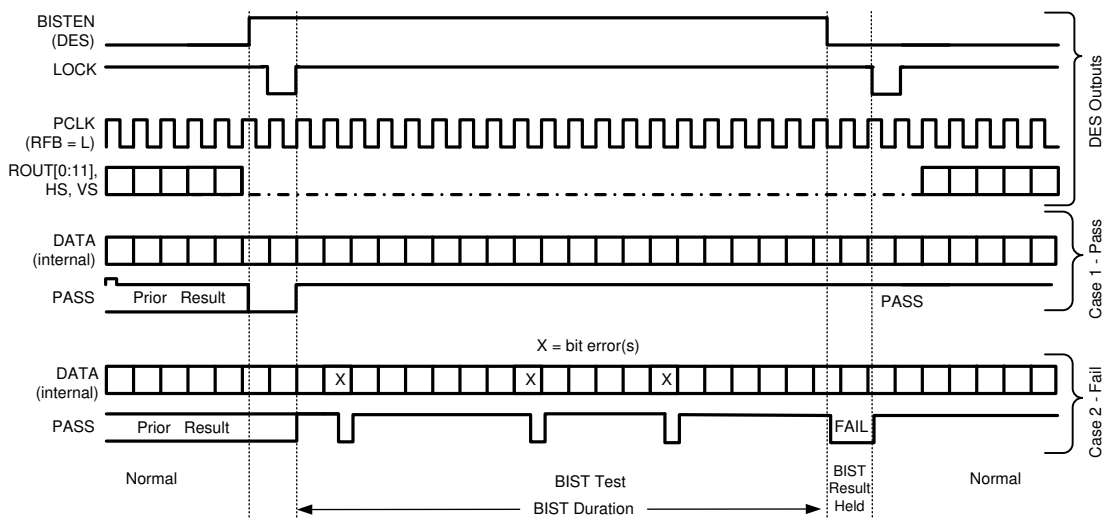

Figure 20. BIST Timing Diagram
**Step 4.** The link returns to normal operation after the deserializer BISTEN pin is low. Figure 20 shows the waveform diagram of a typical BIST test for two cases. Case 1 is error free, and Case 2 shows one with multiple errors. In most cases, it is difficult to generate errors due to the robustness of the link (differential data transmission etc.), thus they may be introduced by greatly extending the cable length, faulting the interconnect, or by reducing signal condition enhancements (Rx equalization).